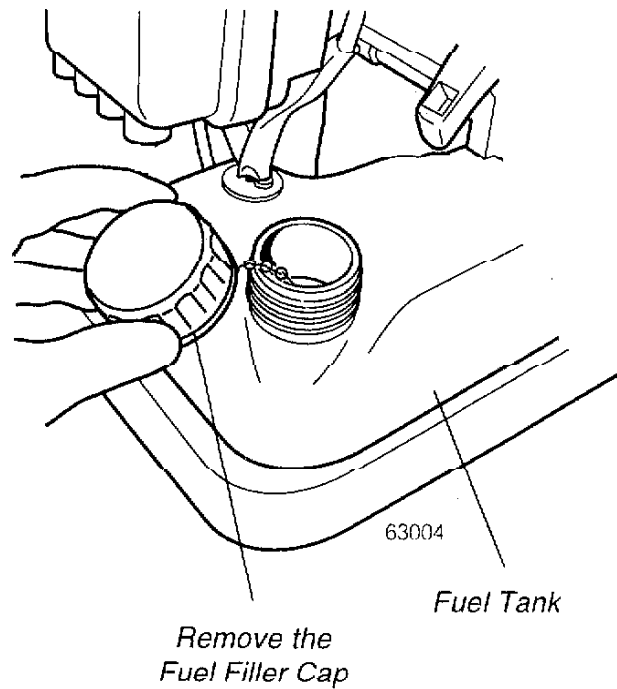

Figure 4.
2. Remove the fuel cap slowly and fill the fuel tank with clean, fresh fuel mixture. See Figure 4.